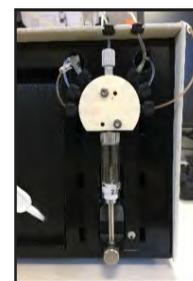

Figure 5.7 Syringe ready for replacement
2. Select the Start button in the Command Bar to begin the Change ESM Syringe sequence. The analyzer will remove any remaining fluid from the syringe and will position the plunger all the way to the bottom of its axis (Fig. 5.7).